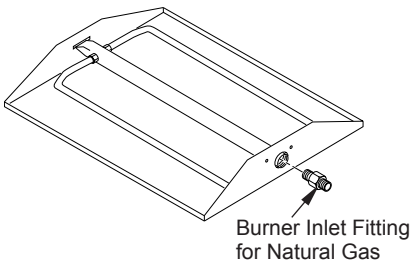
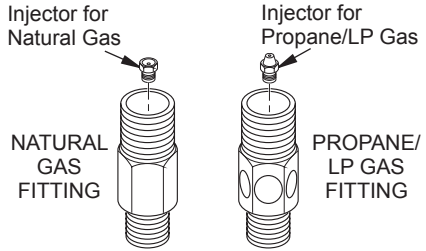

Figure 12 - Remove Burner Inlet Fitting
Figure 13 - Burner Inlet Fittings with Injectors
1. Remove burner inlet fitting from burner pan assembly (see Figure 12). DO NOT remove orifice from fitting. Propane/LP burner inlet fitting is included in hardware kit (see Figure 13).